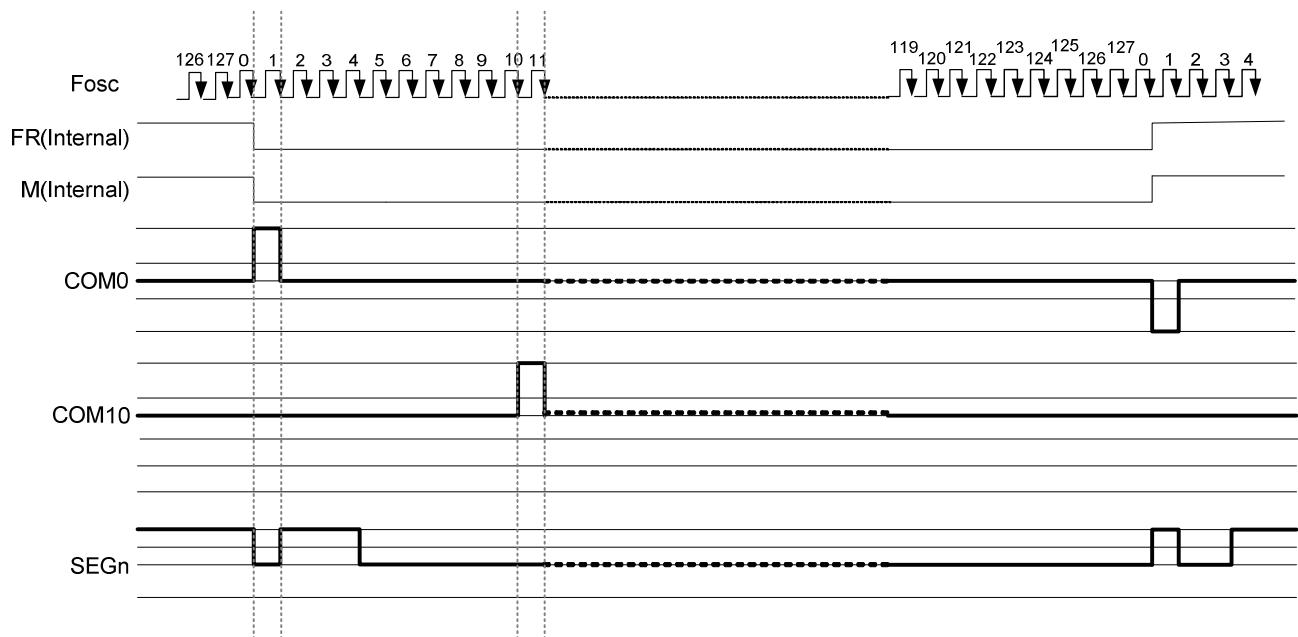

Figure 5 2-frame AC Driving Waveform (Duty Ratio: 1/128)
This circuit generates some signals to be used for displaying LCD. The display clock , which is generated by oscillation clock, generates the clock for the line counter and the signal for the display data latch. The line address of on-chip RAM is generated in synchronization with the display clock and the display data latch circuit latches the 128-bits display data in synchronization with the display clock. The display data, which is read to the LCD driver, is completely independent of the access to the display data RAM from the microprocessor. The display clock generates an LCD AC signal (M), which enables the LCD driver to make an AC drive waveform, and also generates an internal common timing signal and start signal to the common driver. The frame signal or the line signal changes the M by setting internal instruction. Driving waveform and internal timing signal are shown in Figure 5.